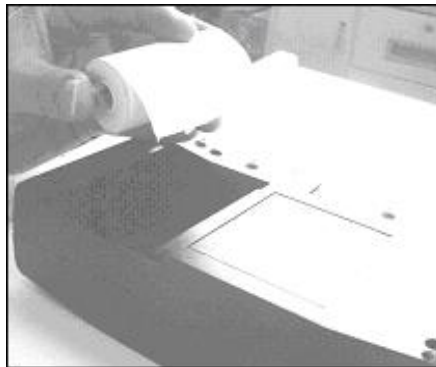

Figure 03b
2. Take out the spindle and mount the paper scroll onto the spindle. See Figure 03b.
3. Put the paper spindle into the printer with correct direction. The paper may not be fed if the direction is wrong. See Figure 03b and Figure 03c.